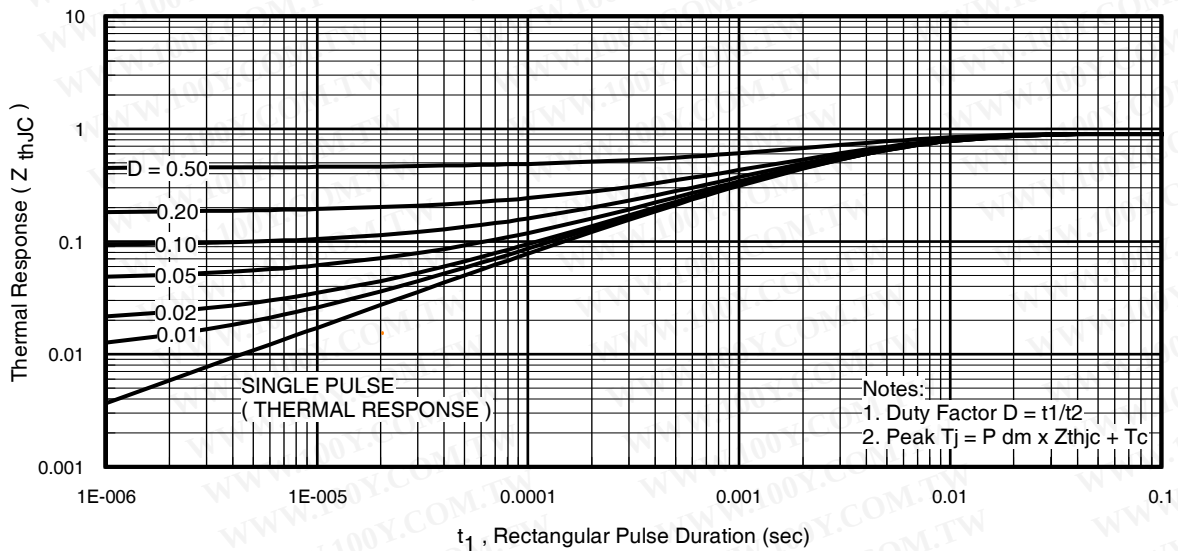
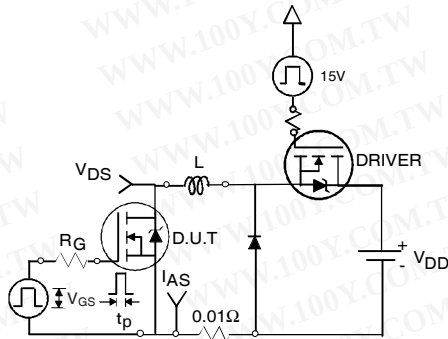

Fig 11. Maximum Effective Transient Thermal Impedance, Junction-to-Case
Fig 12a. Unclamped Inductive Test Circuit
- ① Repetitive rating; pulse width limited by max. junction temperature. (See fig. 11).
- ② Limited by T_{Jmax} , starting $T_J = 25^\circ\text{C}$, $L = 0.12\text{mH}$, $R_G = 25\Omega$, $I_{AS} = 53A$, $V_{GS} = 10V$. Part not recommended for use above this value.
- ③ $I_{SD} \leq 53A$, $di/dt \leq 420A/\mu s$, $V_{DD} \leq V_{(BR)DSS}$, $T_J \leq 175^\circ\text{C}$.
- ④ Pulse width $\leq 1.0\text{ms}$; duty cycle $\leq 2\%$.
- ⑤ $C_{oss \text{ eff.}}$ is a fixed capacitance that gives the same charging time as C_{oss} while V_{DS} is rising from 0 to 80% V_{DSS} .
- ⑥ Limited by T_{Jmax} , see Fig. 12a, 12b, 15, 16 for typical repetitive avalanche performance.
- ⑦ This value determined from sample failure population. 100% tested to this value in production.
- ⑧ This is applied to D²Pak, when mounted on 1" square PCB (FR-4 or G-10 Material). For recommended footprint and soldering techniques refer to application note #AN-994.
3. Equation below based on circuit and waveforms shown in Figures 12a, 12b.
$Z_{thJC}(D, t_{av})$ = Transient thermal resistance, see figure 11)